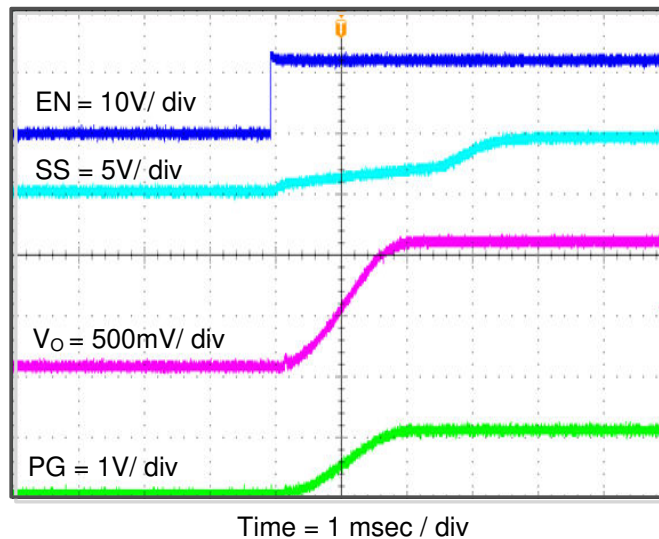

Figure 4-12. TPS563210AEVM-663 Start-Up Relative to EN
The TPS563210AEVM-663 start-up waveform relative to enable (EN) is shown in Figure 4-12. Load = 1 Ω resistive.